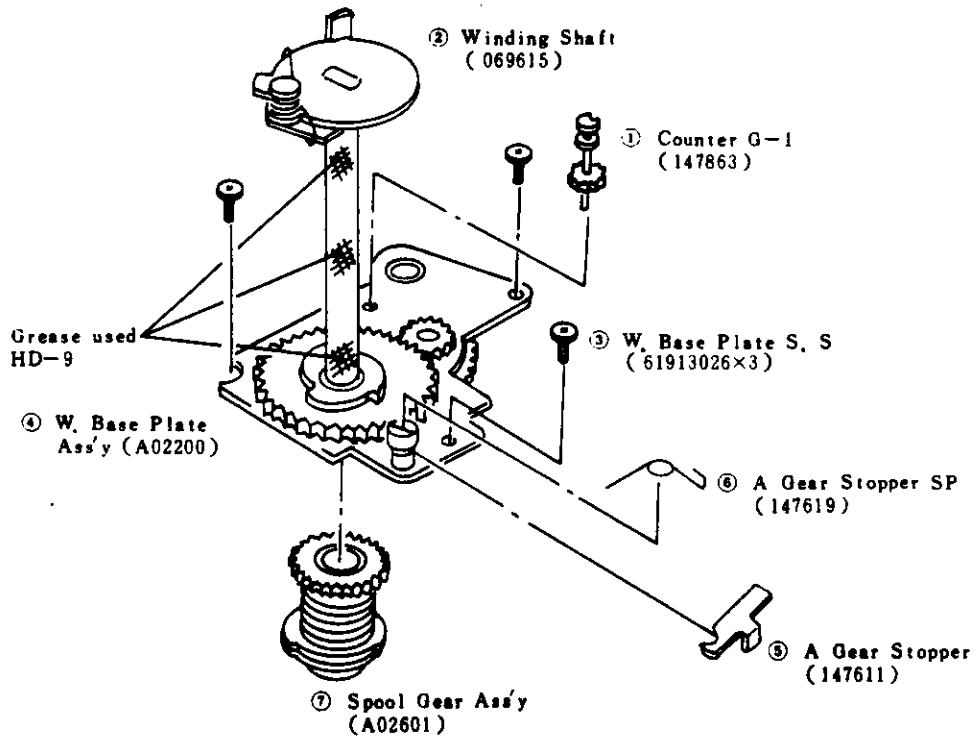

Fig 24
c) Remove the respective parts ① ~ ⑦ shown in (Fig 24) in numerical order.